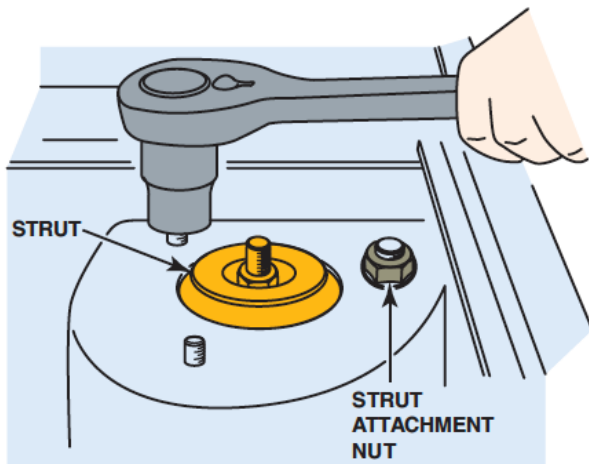

Figure 21. Removing the strut upper mounting nuts.
3. After removing all lower attaching bolts, remove the final upper strut bolt and remove the strut assembly from the vehicle. Figure 21.